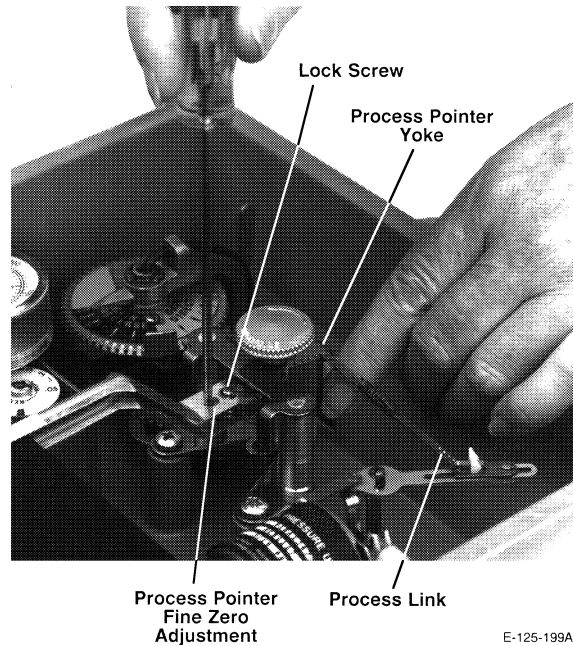

Figure 26. Process Pointer Fine Zero Adjustment
2. If it does not, adjust pointer fine zero (screws located at the top of the process and set-pointer, Figure 26), until 0%  $\pm$ 2 of full scale is obtained.